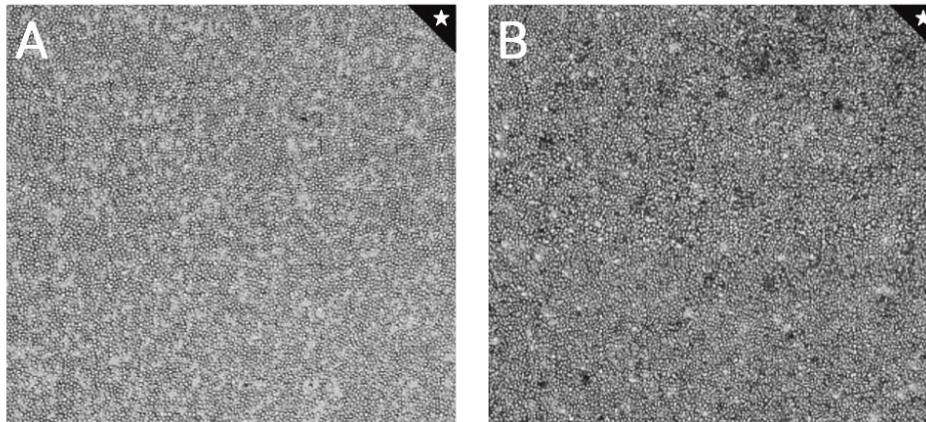

Figure 7. Microscopic view of examples of optimal cell seeding densities.
**Do I need to perform cell density optimization experiment and how?** Yes. We recommend a test (e.g., microscopic evaluation of monolayer) to optimize cell plating density when you first start performing the XF T Cell Activation Assay. The seeding densities recommended in **Table 4** on page 17 serve only as a reference point and you should plan testing with a couple of seeding densities above and below the recommended numbers. This is because different cell counting methods used by different users or in different labs may yield different counting results, which could lead to suboptimal seeding density on the XF cell culture microplates. If cell density is below optimal, it may yield reduced activation signal level or uninterpretable data. In contrast, if a well is overloaded with cells, some of the cells cannot attach to the bottom of the wells and can be pushed aside during assay when activators are injected, resulting in high well-to-well variation in assay results. In general, cells should be distributed evenly as a monolayer at the bottom of the plate after the centrifugation step, with some space between cells (see **Figure 7** below). The optimal cell density after the centrifugation step should show cell distribution similar to Figure 7A or slightly higher and should not be denser than what is shown in Figure 7B.